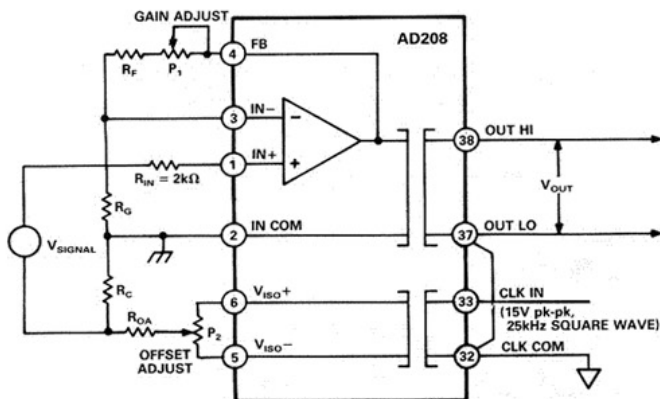

Figure 34. Input Adjustment Circuit for the Noninverting Mode of Operation
**Offset Adjustment.** Figure 34 shows the suggested input adjustment connections when the isolator's input amplifier is configured for the noninverting mode of operation. The offset adjustment circuit injects a small voltage in series with the low side of the signal source. The adjustment potentiometer  $P_2$  is responsible for nulling out the offset voltage. A 100 k $\Omega$   $P_2$ , 50 k $\Omega$   $R_{OA}$  and a 100  $\Omega$   $R_C$  should provide an offset adjustment range (Referred to Input) of about  $\pm 15$  mV. Since the offset is zeroed out ahead of the gain, the values given above for  $P_2$ ,  $R_{OA}$  and  $R_C$  should work for any gain on the isolator.
- To minimize CMR degradation it is recommended that the resistor  $R_C$  (shown in Figure 34) be below a few hundred ohms.
- The offset adjustment circuit of Figure 34 will not work if the signal source has another current path to input common, or if current flows in the signal source LO lead. If this is the case, use the output adjustment procedure.
**Gain Adjustment.** Figure 34 also shows the suggested gain adjustment circuit. Note that the gain adjustment potentiometer  $P_1$  is incorporated into the gain-setting resistor network at the isolator's input.